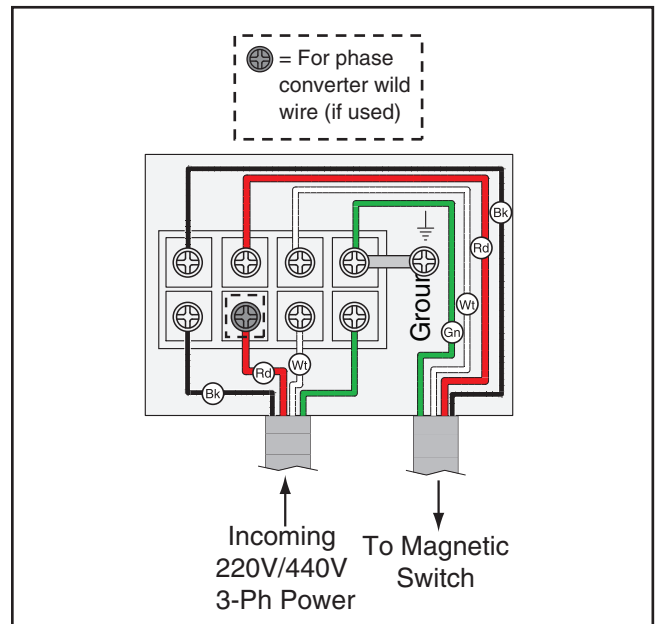

Figure 31. G0569 terminal box connection.
2. Feed the power wires through the strain relief on the bottom of the terminal box, tighten the strain relief, connect the cord to the terminals shown in **Figure 31** then re-install the terminal box cover.
Note: When using a phase converter, connect the manufactured power leg or "wild wire" to the terminal indicated in **Figure 31**. This terminal can handle power fluctuation because it is wired directly to the motor. The other wires connect to the controls and must be consistent to prevent damage.